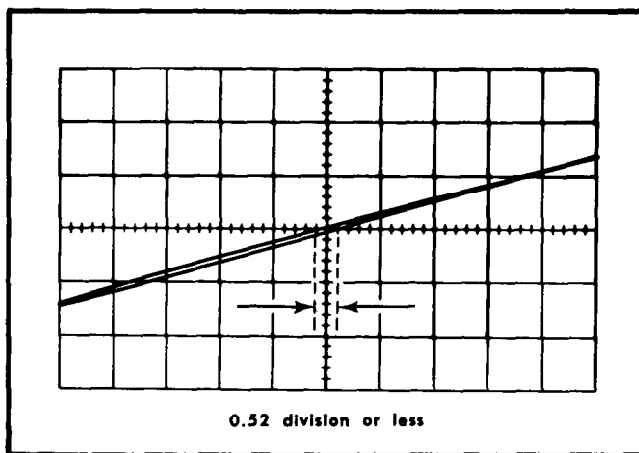

Fig. 5-25. Typical CRT display when checking X-Y phasing.
- e. CHECK-CRT display for an opening at the center horizontal line of 0.52 division or less (3° or less phase shift; see Fig. 5-25).